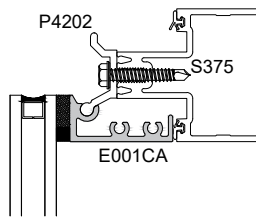

Fig. 64.2
- STEP 2: Roll head of frame toward back member support framing as shown at Fig. 64.2.
- STEP 4: Install and attach head anchor clips P4202, 12" o/c, maximum 2" from ends. See Fig. 64.2